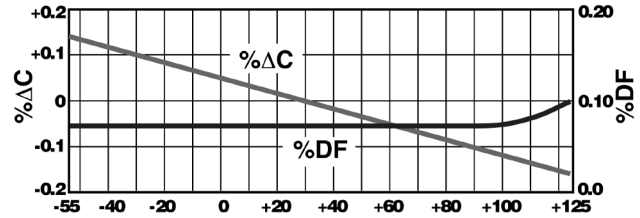

Figure 3. Capacitance & DF vs Temperature - C0G
**Effect of Temperature:** Both capacitance and dissipation factor are affected by variations in temperature. The maximum capacitance change with temperature is defined by the temperature characteristic. However, this only defines a “box” bounded by the upper and lower operating temperatures and the minimum and maximum capacitance values. Within this “box”, the variation with temperature depends upon the specific dielectric formulation. Typical curves for KEMET capacitors are shown in Figures 3, 4, and 5. These figures also include the typical change in dissipation factor for KEMET capacitors.